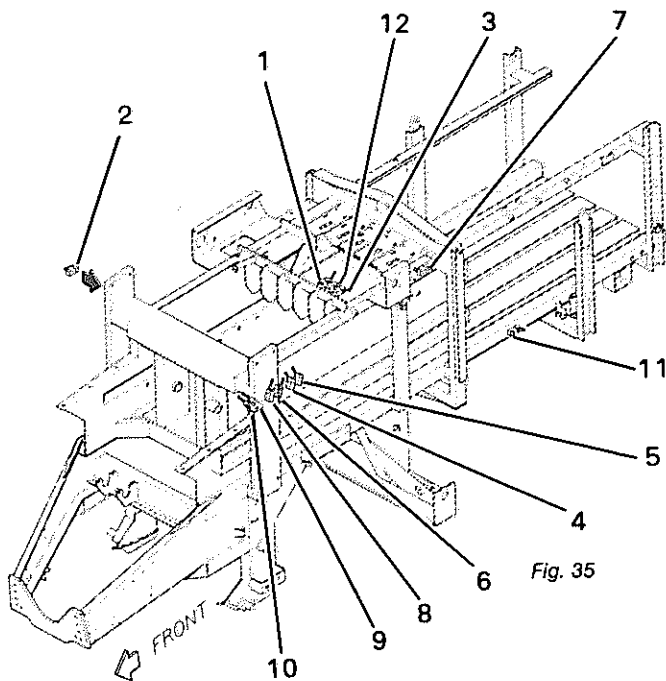

Fig. 35
3. Attach test string to LS-3 (Full Charge Switch), see **Fig. 35**, roller arm. Route the string so that the switch can be easily activated and released while standing on the ground.
See **Fig. 35** for a general outline of the limit switches.